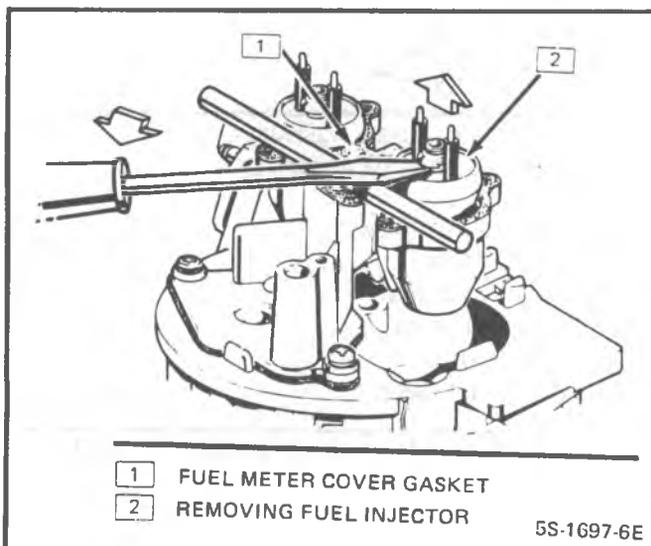

Figure 4-24 - Removing TBI 220 Fuel Injector
3. With fuel meter cover gasket in place to prevent damage to casting, use a screwdriver and fulcrum to carefully lift out each injector (Figure 4-24).